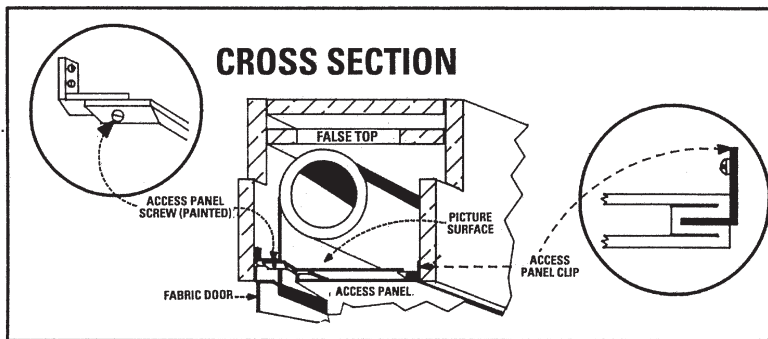

FIG. 3
5. Remove tape strips and release fabric (Fig. 2). Picture surface should hang freely (Fig. 3). Remove any tape left hanging on back of fabric. Bottom edge should be positioned between bottom edge of case and center of roller.
1. Press switch "down" so that fabric door opens (Fig. 3).
2. Remove screws (2) located on each bumper bracket.
3. Remove the access panel (2 screws, Fig. 3).